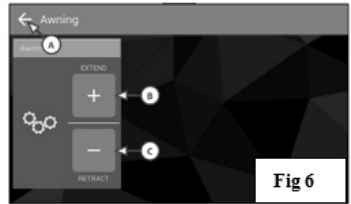

Fig 6
Awning Operation: Select the AWNING icon; the screen opens showing the awnings **(Fig 6)**. If there are multiple awnings, there will be a selection for each awning at the left of the screen. Select the awning you want to control, then press and hold the **EXTEND (B)** or **RETRACT (C)** buttons. Select the back arrow (A) to return to the Device Selection screen